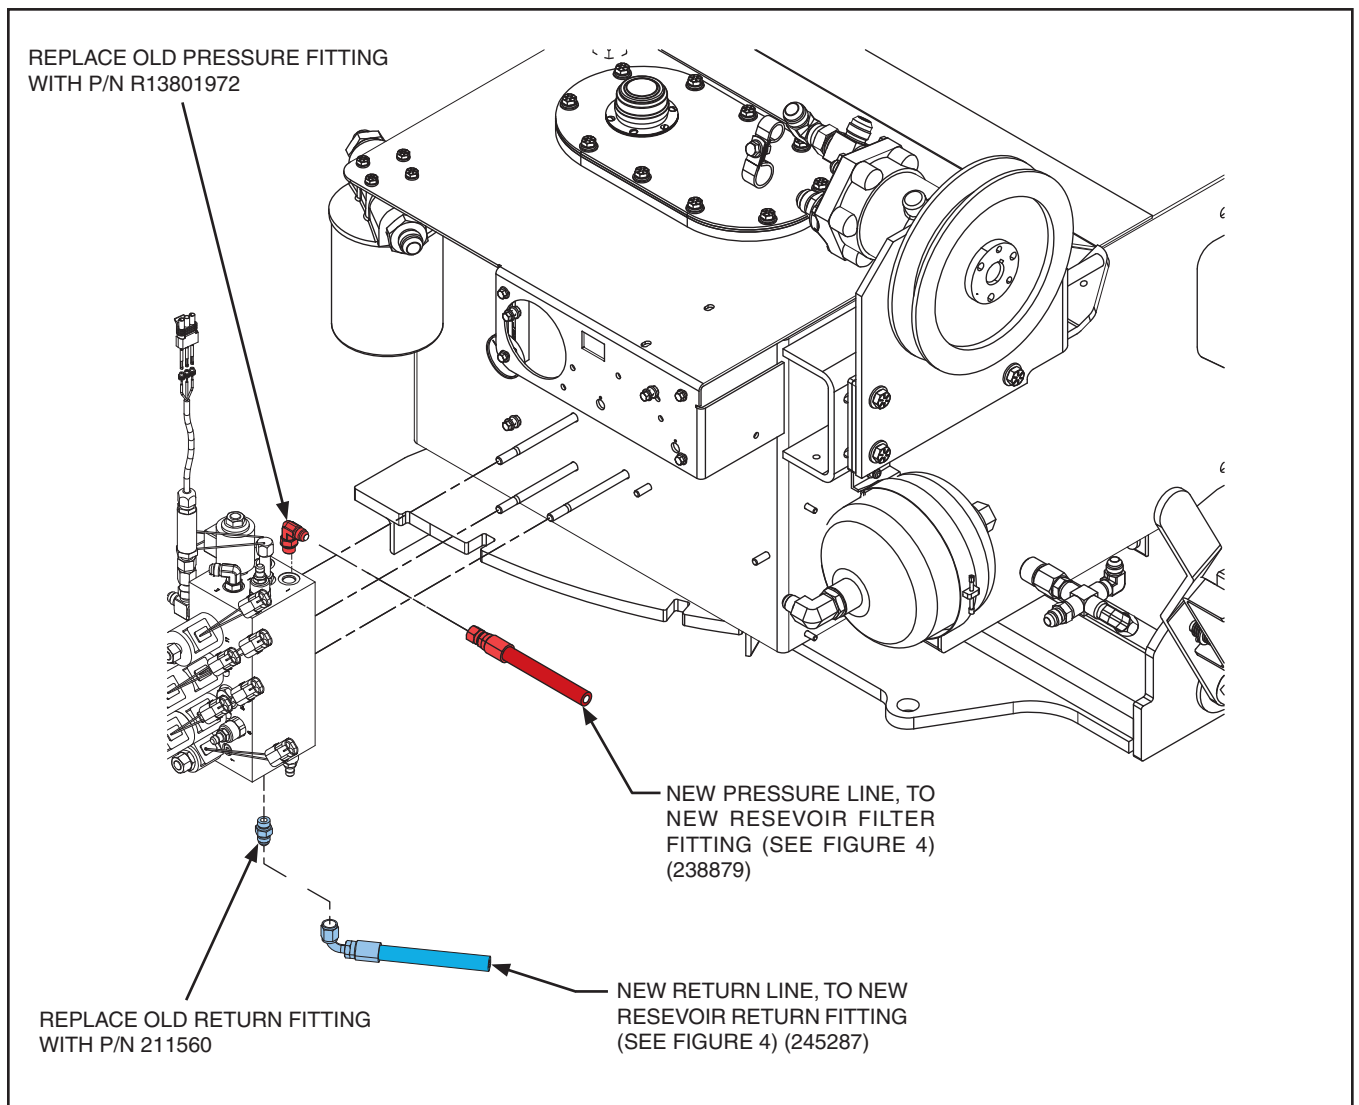

Figure 6
11. Remove the two (2) fittings from the baler mounted, hydraulic manifold (See Figure 6). Install new fittings (P/N's 211560 & R13801972) in manifold.
15. Disconnect the Pressure Line at the baler mounted hydraulic manifold (See Figure 6) and place the loose end of the hose in a 5 gallon bucket or similar container.